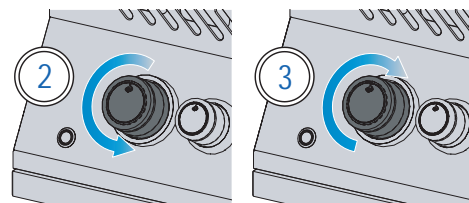

Fig. 1
4. If the pilot and burner will not light in 5 seconds – turn the control knob clockwise to the OFF position. Wait 5 minutes for gas to dissipate. Repeat steps 2 and 3, or light with a match. (Fig. 1)